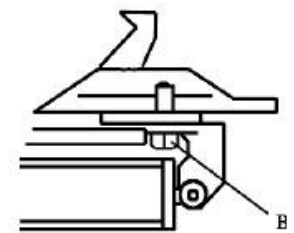

Fig 21
Note: After the first 20 days of use, retighten the jaws with tightening screws (B) on the Turntable (Fig 21)